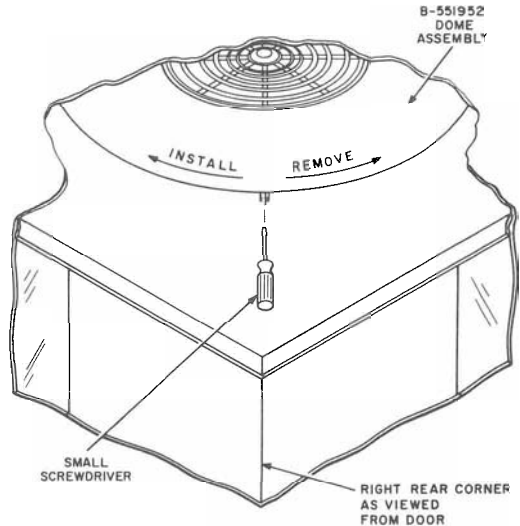

**Fig. 9—KS-19783, List 1 Dolly Installed in Booth**
- 3.08 Install KS-19783, List 1 dolly per Fig. 9 using hardware furnished.